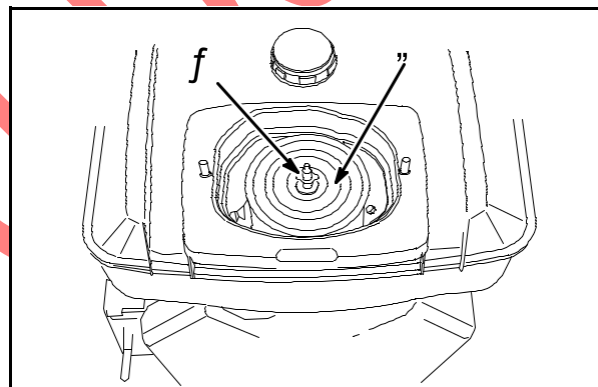

Fig. 8
Remove air cleaner nut (3), top plate (4) and air cleaner element, **Fig. 8**.